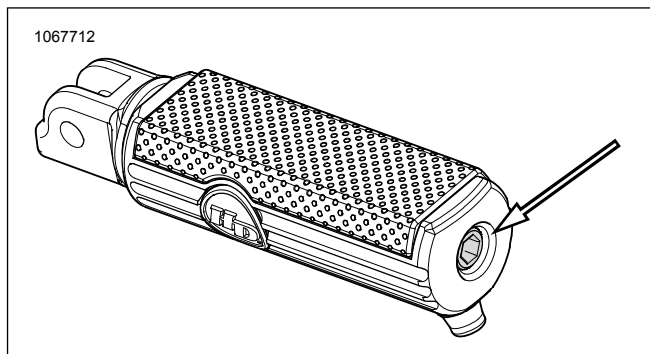

Figure 5. Footpeg Adjusting Screw
4. Rotate footpeg (3) into position in clevis and insert pin (4) through clevis, footpeg (3) and spring (1).
5. Install retaining clip (2).
7. See Figure 5. For adjustable footpegs: